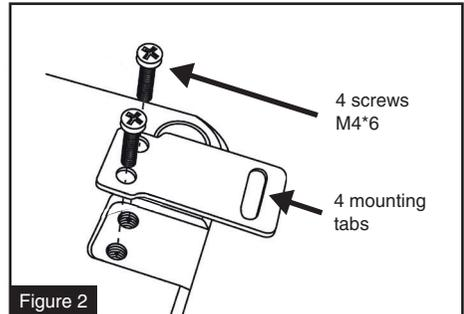

Figure 2
6. Fix the clamps to the subwoofer case with the four screws M4*6 (the fixing clamps have a mounting direction system) see (Figure 2 & 3)